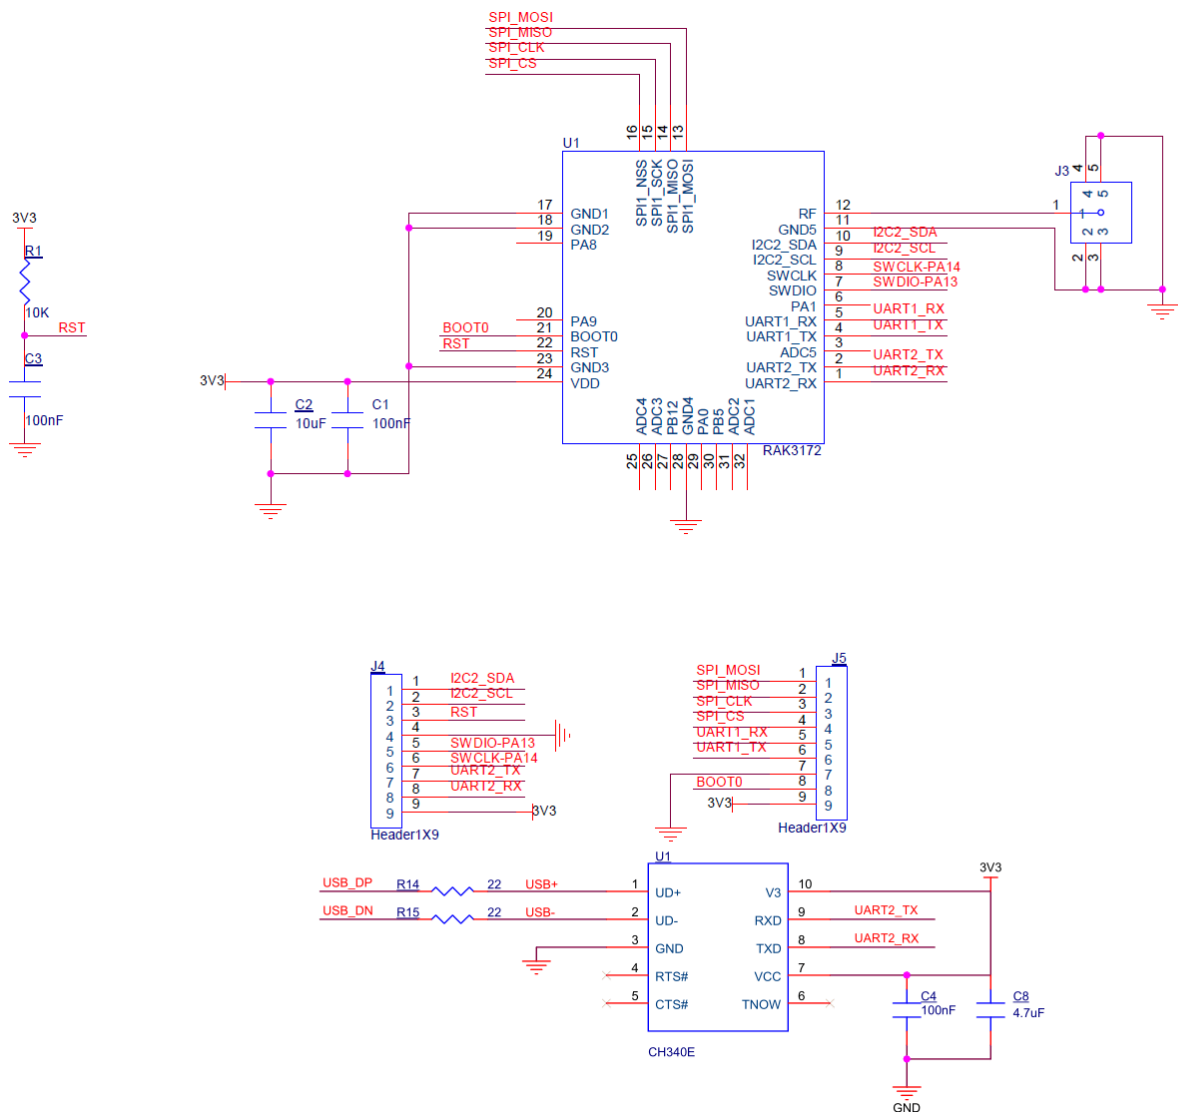

Figure 10: RAK3272S with USB to Serial Schematic
1. After completing the steps on adding your RAK3272S to the Arduino IDE, you can now try to run a simple program to test your setup. You need to add a USB connection to the schematic of the RAK3272S breakout board, as shown in **Figure 10**.